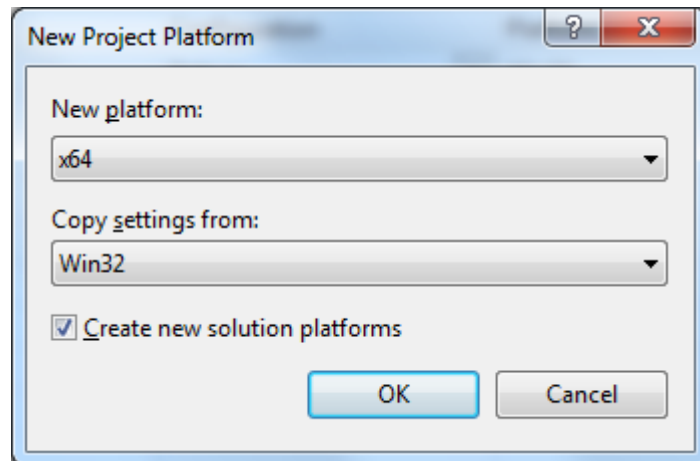

Figure 24 New Project Platform window
9. Select “x64” as the new platform and click “OK” (see Figure 24). Then click “Close” on the “Configuration Manager” window.